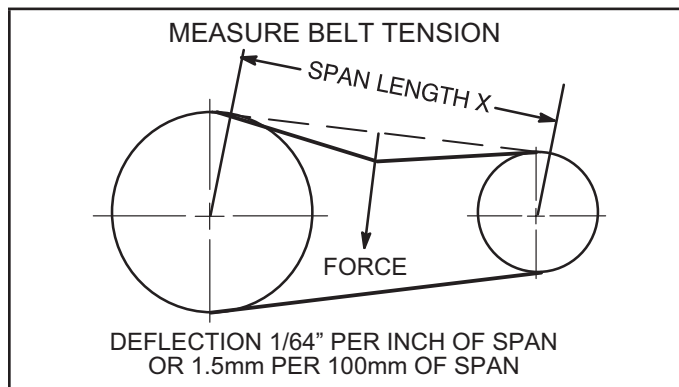

FIGURE 22
- 1 - Measure span length X. See FIGURE 22.
- 2 - Apply perpendicular force to center of span (X) with enough pressure to deflect belt 1/64-inch for every inch of span length or 1.5mm per 100mm of span length.